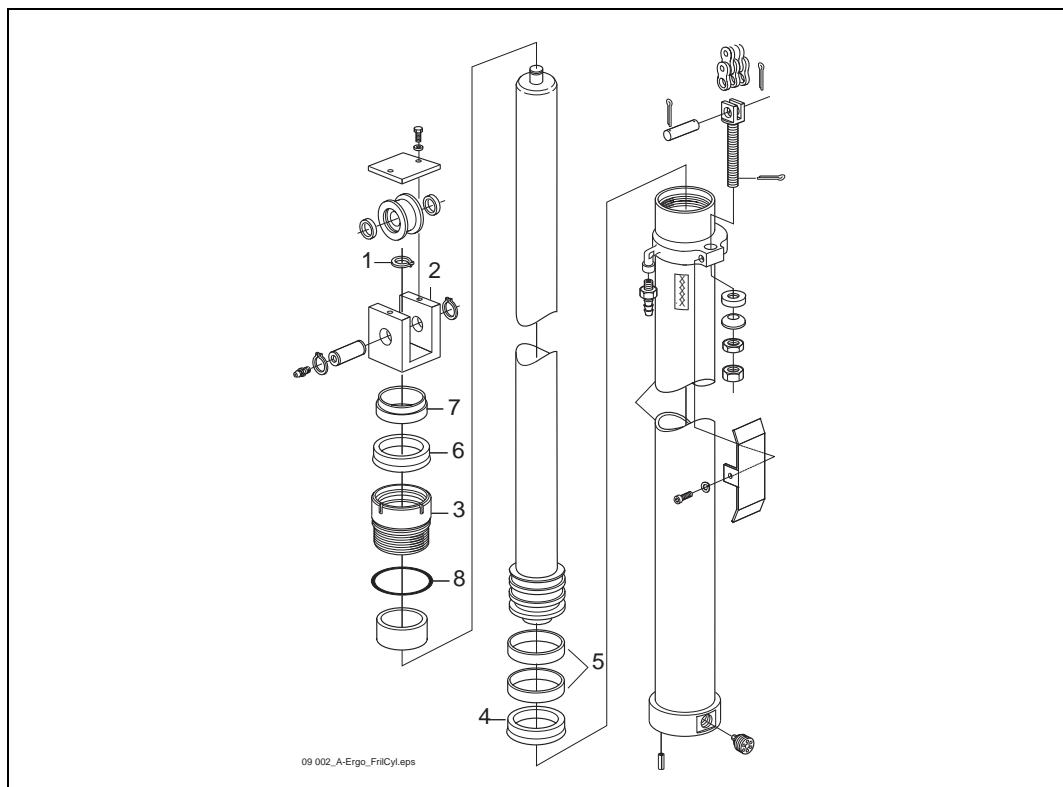

Figure 9.2 Free-lift cylinder TFV/DTFV
2. Remove the circlip, pos. 1 see Figure 9.2, and remove the yoke, pos. 2.
4. Remove the top nut, pos. 3, with a suitable tool and take it off the piston rod.
6. Remove the seal, pos. 4, and guide rings, pos. 5, on the piston. Use a thin tool that will not scratch.
7. Remove the seal, pos. 6, and scraper, pos. 7, from the top nut and O-ring, pos. 8.